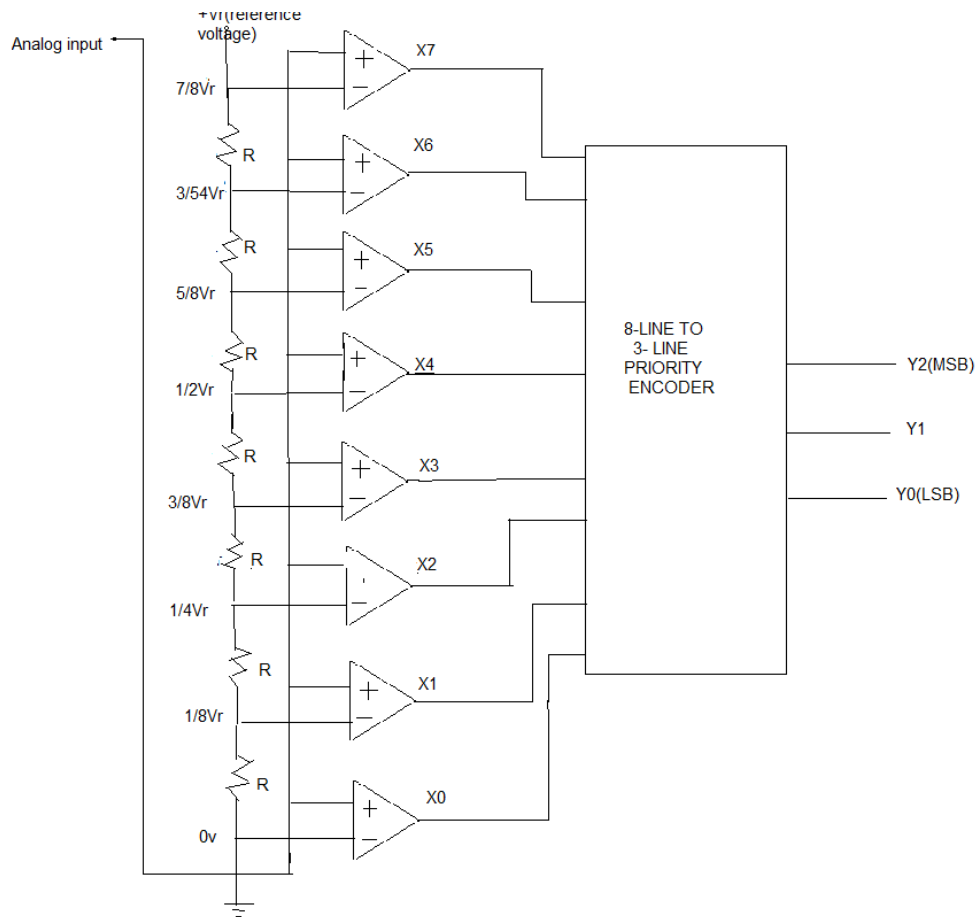

Fig 2.19 Basic circuit of flash type ADC
- This is the possible A/D convertor. It is at the same time, the fastest and most expensive technique. Figure 2.19 shows the 3-bit A/D convertor.